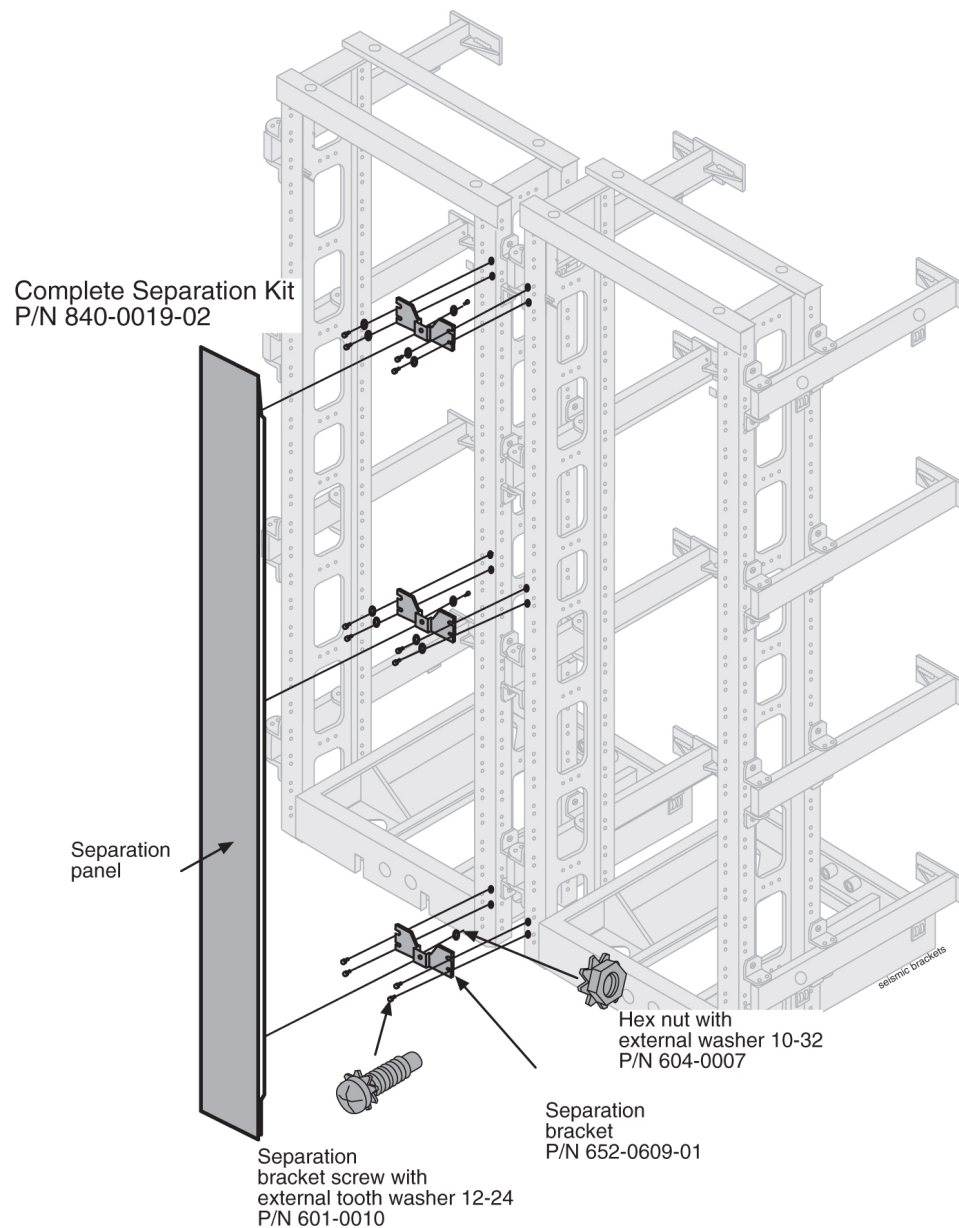

Figure 25: Unit Separation Bracket Installation
2. Use 12 screws to attach three unit separation brackets with studs as shown in Figure 25: Unit Separation Bracket Installation.